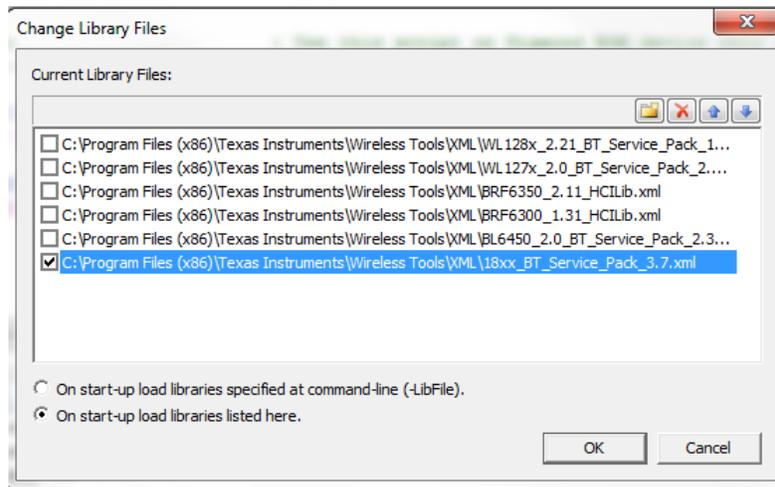

Figure 4. Changing the XML File
- To open the Change Library Files dialog box, click the Change Library button (for more information on the Change Library button, see Table 11). The Change Library Files dialog box displays (see Figure 4).